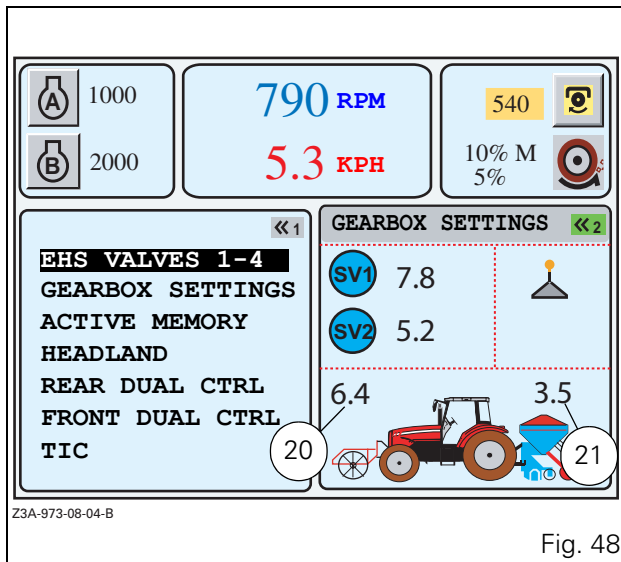

Fig. 48
- Validate by pressing the encoder or the key <<2. The window (Fig. 48) is displayed.
Description (Fig. 48):